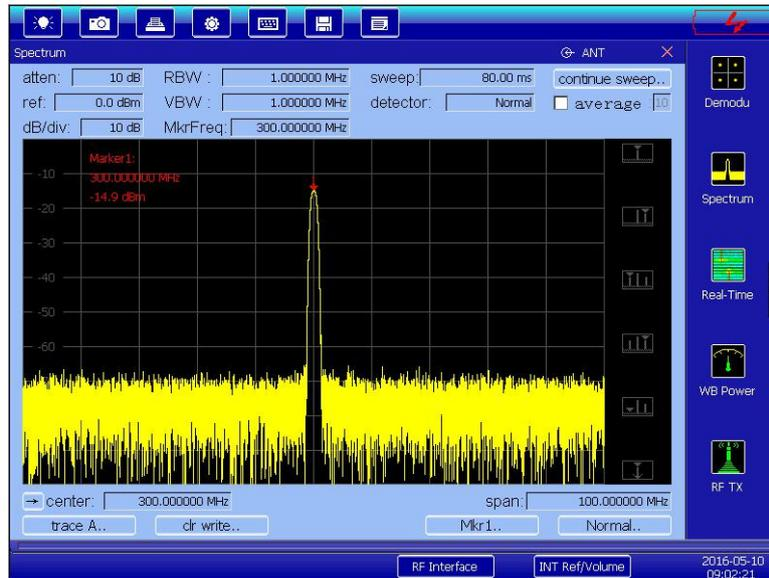

Fig. 4-10 Spectrum measuring interface
- 5) Click **[center]** and **[sweep]** for relevant setting on the lower part of the screen as per the input signal. After that, the spectrum of the signal under test can be seen, as shown in Fig. 4-10.
In the Spectrum mode, the power of specific frequency point can be measured easily via the marker. S5104 series provides a shortcut option to use the marker for measurement, as shown in Fig. 4-11, through which such values as the peak, secondary peak, left peak and right peak can be measured easily. Meanwhile, the instrument can support multiple-marker measurement, and Markers 1-4 can be selected from the function menu in the left of the interface. The measuring case shown in Fig. 4-10 selects Marker 1 for peak measurement.